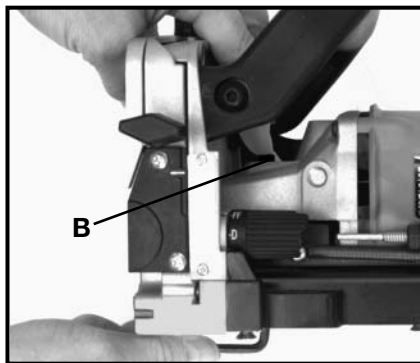

Fig. 11
2. Depress and hold spindle lock button (B) Fig. 11, while rotating blade by hand until spindle lock engages.
7. Depress and hold spindle lock button (B) Fig. 11, while rotating blade by hand until spindle lock engages.